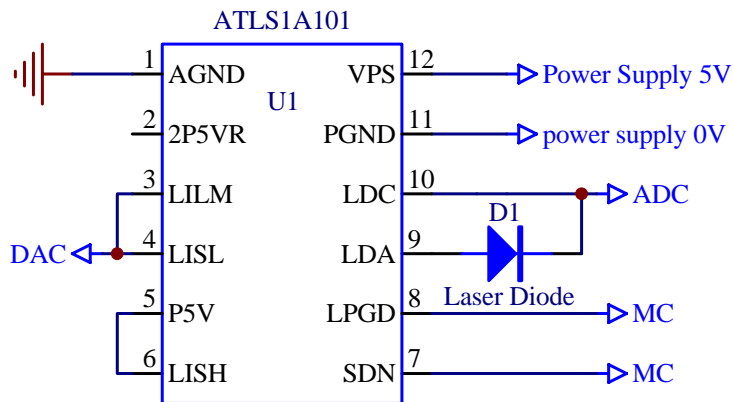

Figure 3 A Typical Micro-processor-based Application Schematic
Figure 3 shows an application where ATLS1A101 is interfaced with a micro-controller. In this circuit, the input current can be set by a DAC (Digital to Analog Converter), the current limit can either be set by a POT (Potentiometer), a pair of resistors, or the same DAC. The output current can now be monitored by an ADC (Analog to Digital Converter). By sensing the logic level of LPGD, pin 8, the working status of the controller can be monitored by a micro-controller (MC), when it is 1, the loop is good; 0, the loop is at fault, which includes open circuit at the laser diode connections, or short circuit at the LDC pin to ground. Shut down pin can also be controlled by the micro-controller, setting it to 1 turns on the controller, 0 off. Please notice that this pin comes with an internal pull up resistor of 100K, it can be ORed by multiple digital ports of several micro-controllers, with each of the port having an open-drain output. The internal voltage reference output, 2P5V, pin 2, can be used as the reference voltage for the ADCs and the DACs.